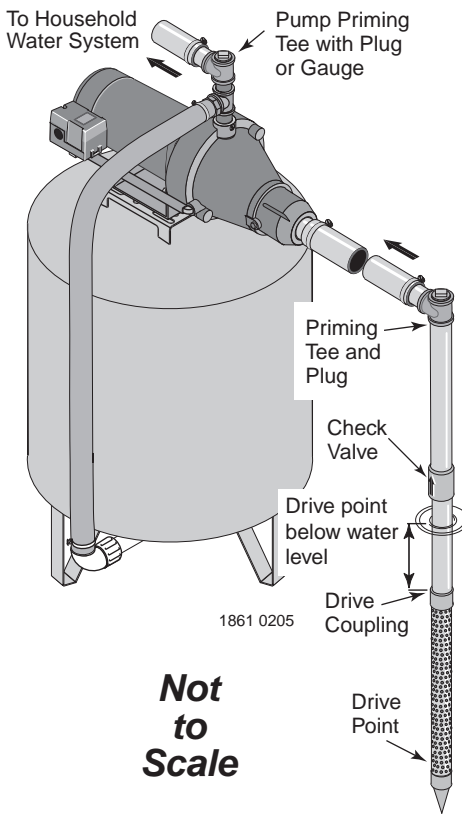

Figure 1: Driven Point Installation
WELL POINT (DRIVEN POINT) INSTALLATION (Figure 1)
Step 3. Use the fewest possible fittings (especially elbows) when connecting the pipe from the well point to the pump suction port. The suction pipe should be at least as large as the suction port on the pump (include a check valve if your pump is not equipped with one – see Figure 1). Support the pipe so that there are no dips or sags in the pipe, so it doesn’t strain the pump body, and so that it slopes slightly upward from the well to the pump (high spots can cause air pockets which can air lock the pump). Seal the suction pipe joints with teflon tape or a teflon based pipe joint compound. Joints must be air- and water-tight. *If the suction pipe can suck air, the pump cannot pull water from the well.* If one well point does not supply enough water, consider connecting two or three well points to one suction pipe.